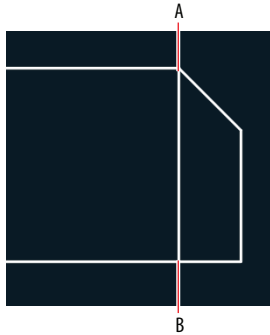

FIGURE 3.13 Overriding running snaps with Nearest snap
8. Zoom into point A or B in Figure 3.13, and verify that the lines are connected perfectly. Click Zoom Extents in the Navigation bar to return to the initial overall view.